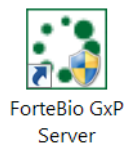

Figure B-51: Pall ForteBio GxP Server Desktop Icon
- **If the GxP Server module is installed on a local host computer**—Double-click the ForteBio GxP Server desktop icon (Figure B-51).